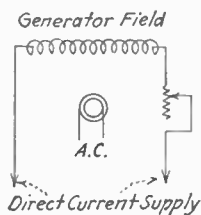

FIG. 62.—Separately excited generator field.
*Ans.* In radio practice, the fields of the alternating-current generator or alternator are usually separately excited, as shown in Fig. 62, by connecting the field directly in parallel to an external source of direct current.